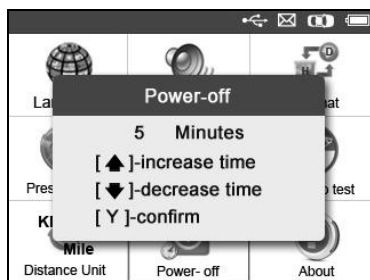

Figure 3.10
- 2) Press **UP/DOWN SCROLL** button to increase or decrease the time to auto power-off the tool, and then press the **Y** button to confirm your change or the **N** button to exit without change. (Figure 3.10)